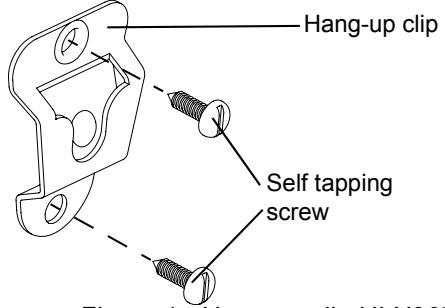

Figure 1: Hang-up clip HLN9073
- Refer to Figure 1. Once an installation location has been decided, perform the following steps: